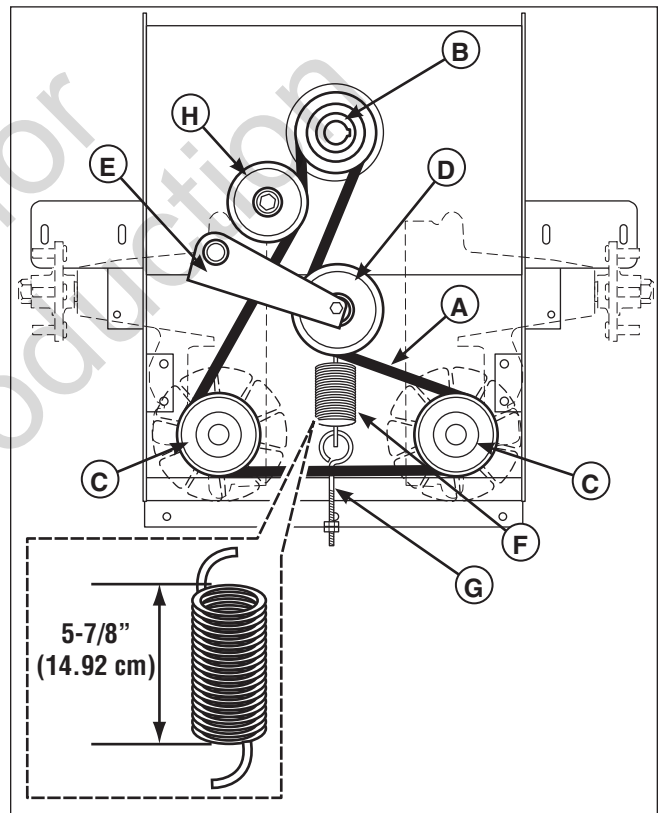

Figure 43. Hydraulic Pump Drive Belt Replacement
4. Loosen the nut on the spring anchor eyebolt (G, Figure 43) to release the majority of the belt tension. Use caution and remove the nut to completely release the